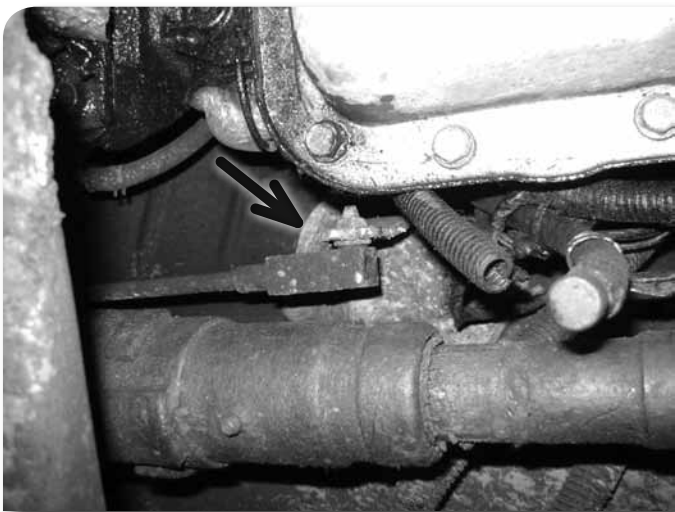

Figure 12
21. **Manual Transfer Cases:** Shift into 2-HI position and remove the shift linkage from the shift lever. Carefully pry the shift linkage end out of the plastic retainer on the shift lever. **Figure 12** This linkage will be adjusted later.